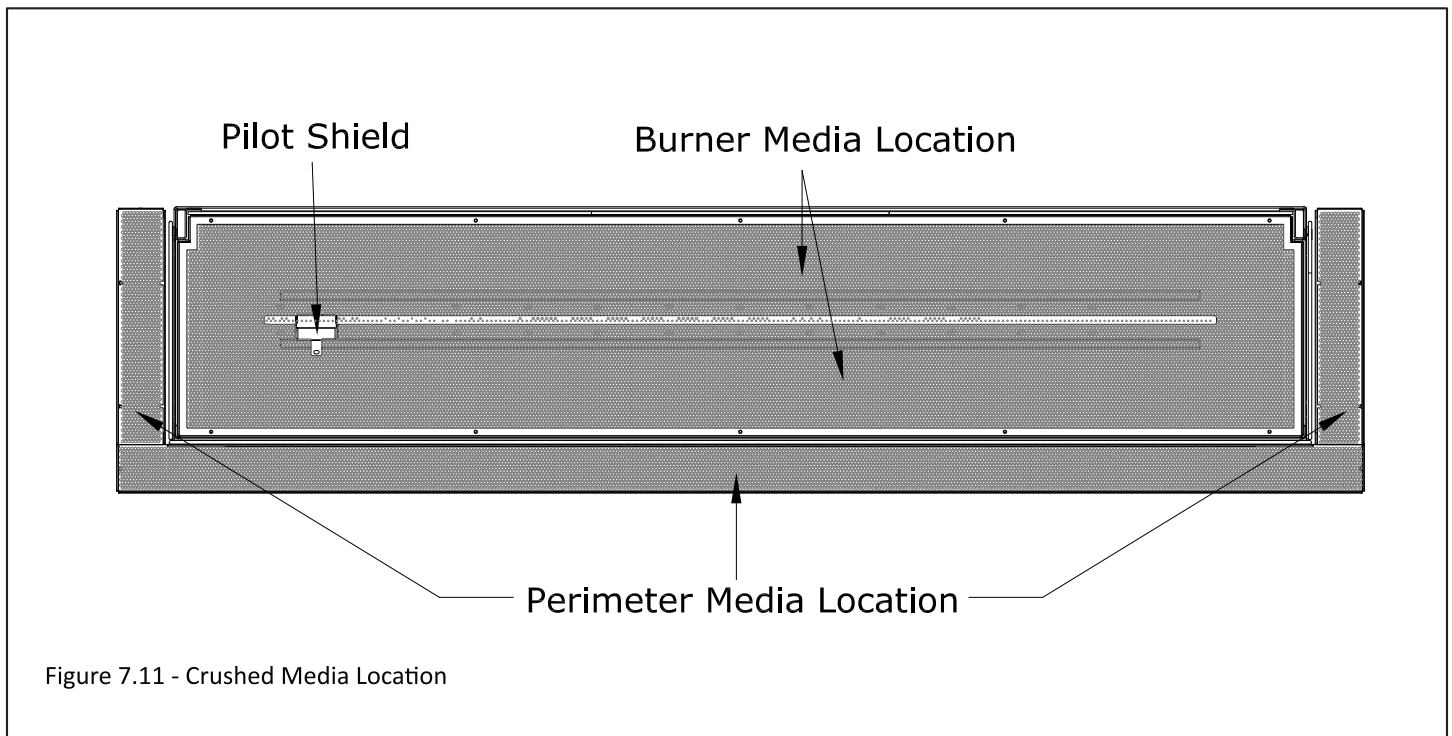

Figure 7.11 - Crushed Media Location
**IMPORTANT:** It is required that no crushed media blocks the pilot flame from igniting the burner. A blocked pilot may cause a delayed ignition. Figure 7.11 shows an arrow on the left that is pointing to the pilot shield around the pilot. Do not place media inside the media guard to cover or block the pilot.
**IMPORTANT:** Inspect and ensure the lighting of the main burner occurs within (4) seconds of the main gas valve opening.
- The fireplace includes the crushed media that is required for operation (Part #435-ICE). You will receive (7) 5lb. bags of crushed media.